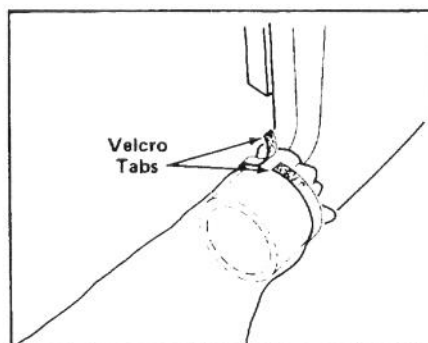

Fig. 5
5. Fit opening of bag over exhaust opening sleeve on blower. Pull strap tightly overlapping velcro tabs and secure (Fig. 5).